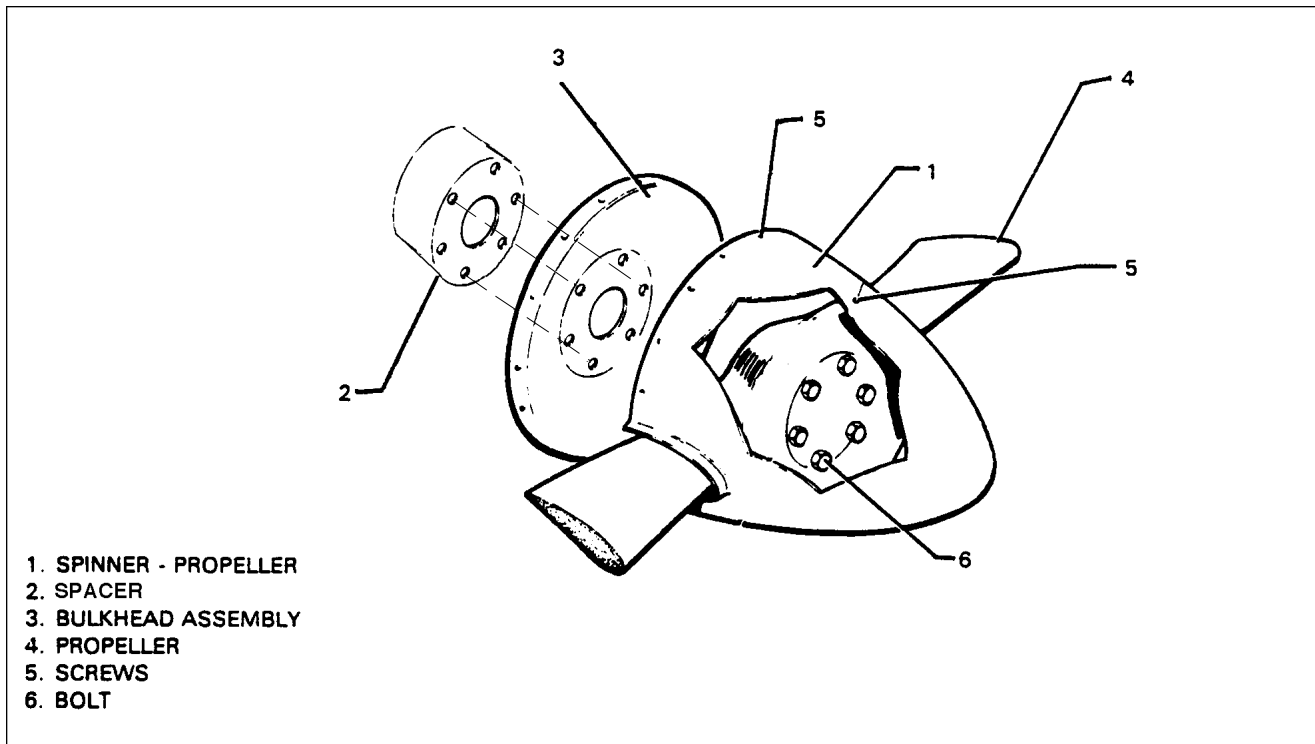

Figure 61-3. Archer III Propeller Installation (S/N's 2890206 and up)
2. Archer III (S/N's 2890206 and up) (Refer to Figure 61-3)